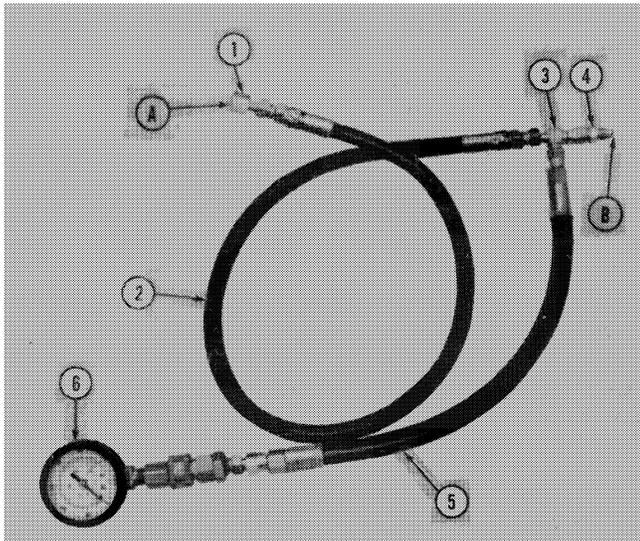

Figure 14
2. Connect the test equipment as shown in Figure 14.